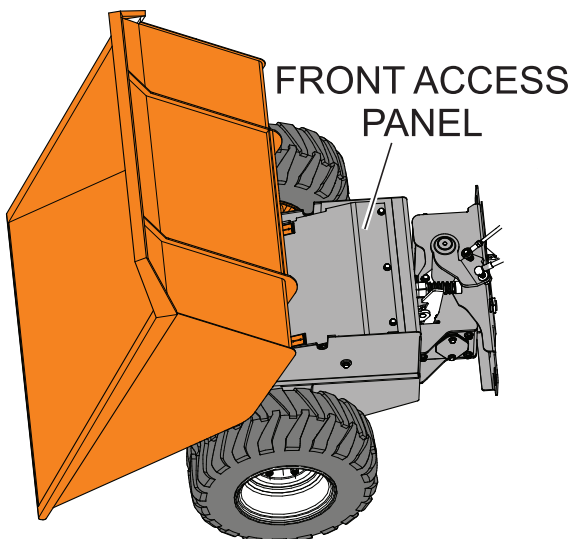

Figure 63. Front Access Panel Removal
2. Next, remove the **six** bolts that secure the front drive chain access panel (Figure 63) to the frame. Set the bolts aside and remove access panel.